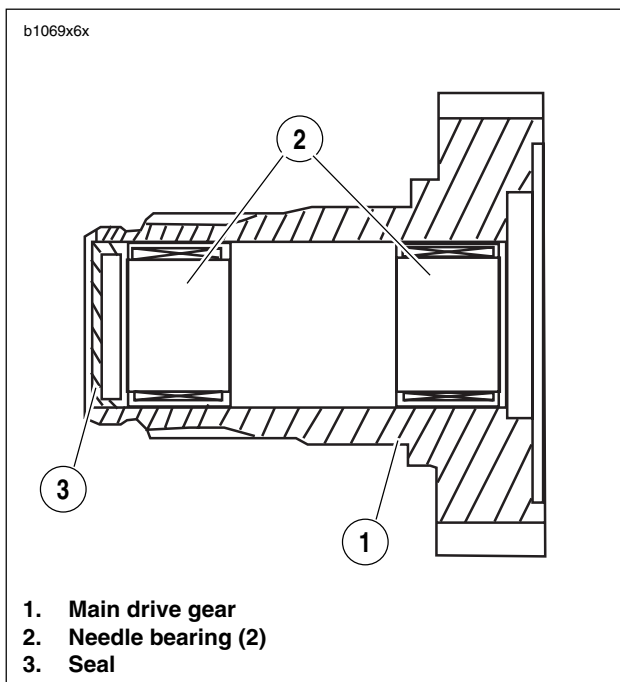

Figure 6-69. Main Drive Gear Assembly
3. See Figure 6-69. From inside case tap out seal at end of mainshaft 5th gear. Discard seal.